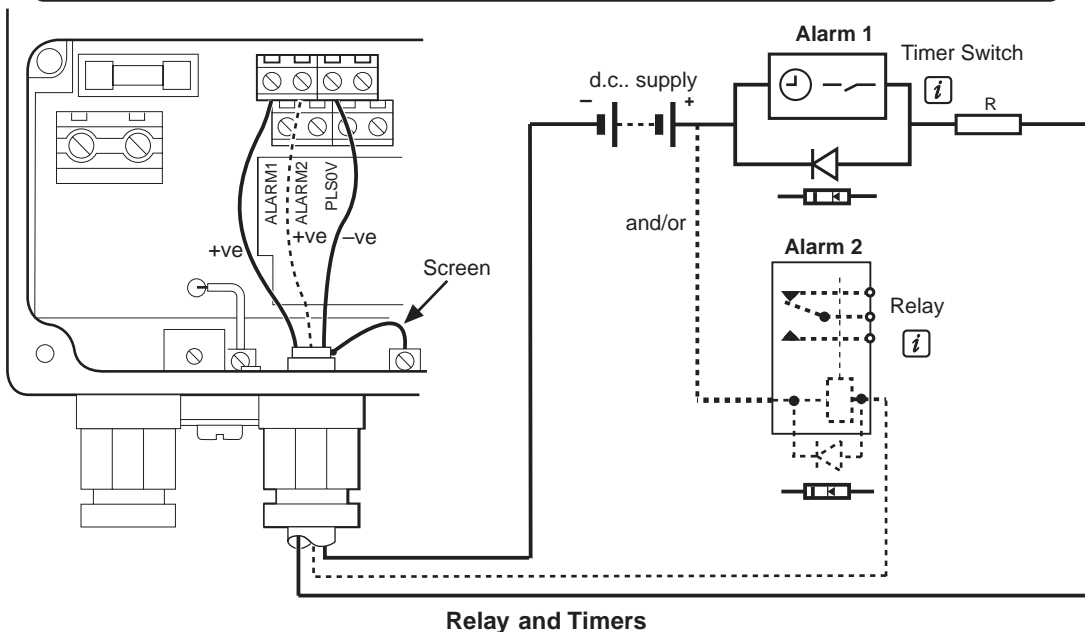

Fig. 3.13 Alarm Output Connections
3.7.3 Alarm Outputs – Fig. 3.13